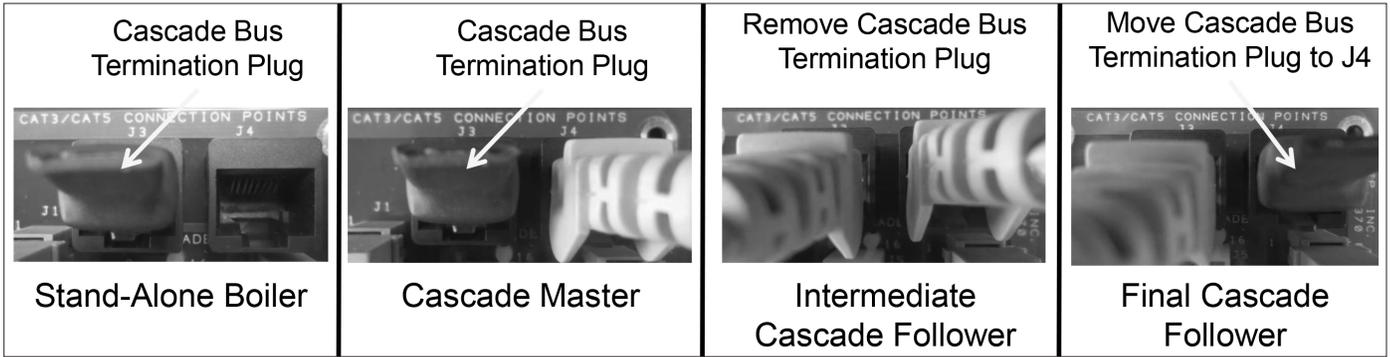

Figure 25 - Cascade Termination Plug Detail
1. A Cascade Bus Termination Plug has been installed on the customer connection board of this VWH. The purpose of this plug is to stabilize communication between multiple VWHs and reduce electrical "noise". See Figures 25 and 26 for Cascade Bus Termination Plug installation detail.